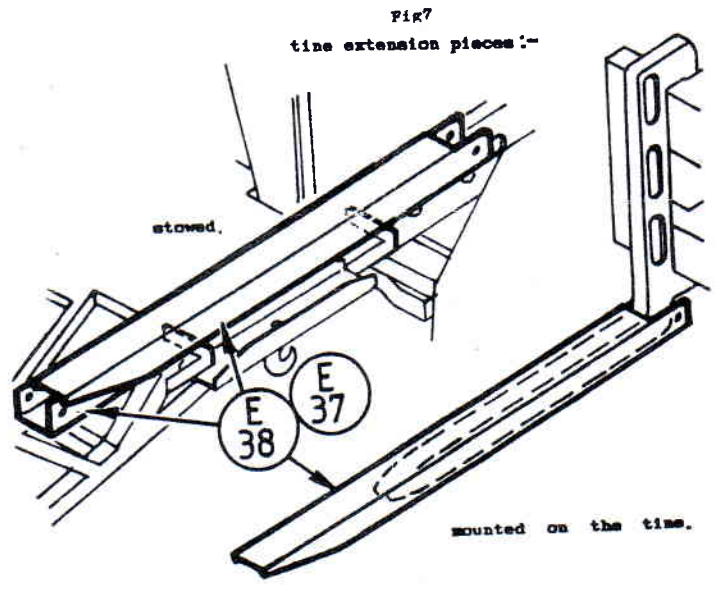

Fig 7
f) Glue the tine extension brackets E5 and E6 onto the left side of the chassis as indicated. Fold the tine extension pieces E37 and E38, glue together and then paint. These items are stowed on the brackets E5 and E6, as shown. Fig 7